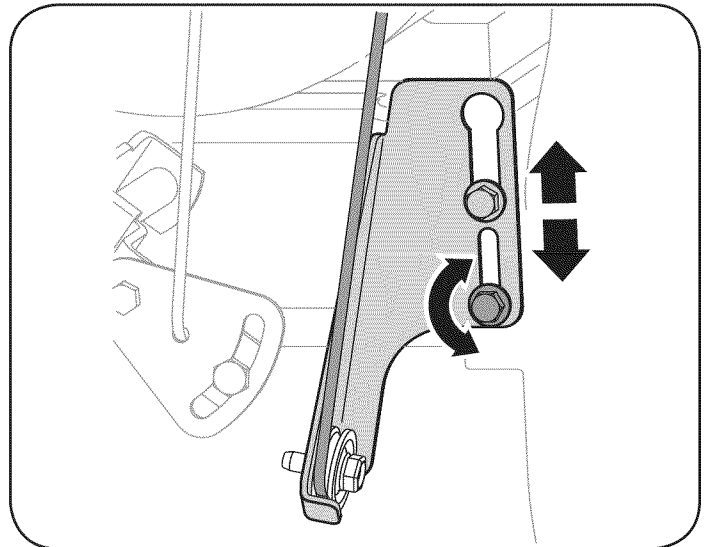

Figure 20
5. Loosen the lower hex bolt on the drive cable bracket. See Figure 20.